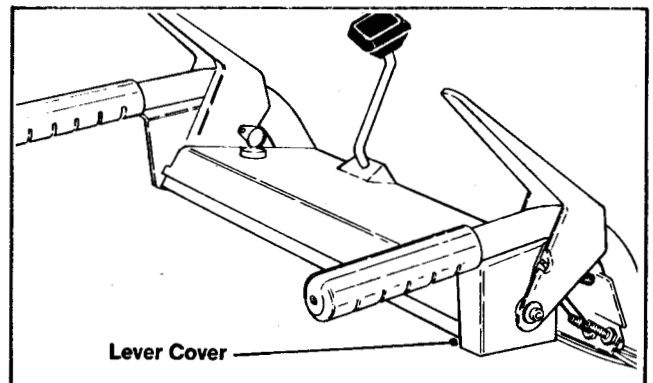

Figure 133
4. Remove the two screws securing the impeller locking mechanism cover to the top of the right handle. See Figure 133.